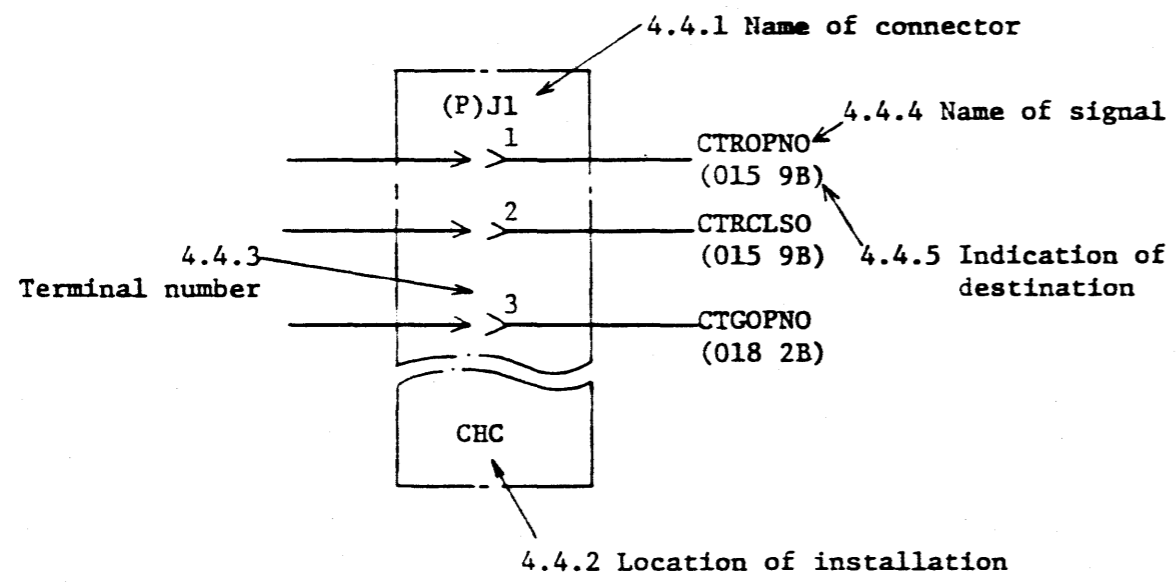

Fig. 4.3 Peripheral data of connector
4.4 Peripheral Data of Connector (Refer to Fig. 4.3.)